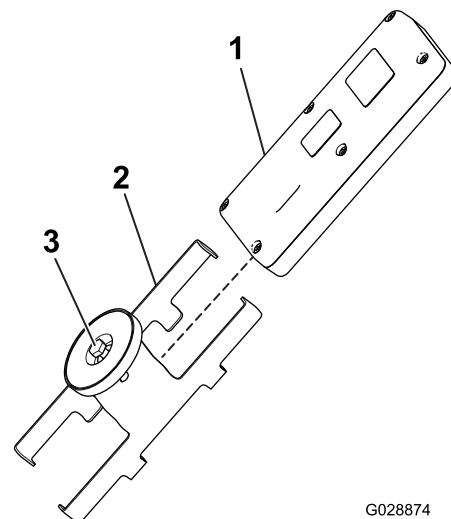

Figure 45
1. Loosen the bolt in the magnet on the magnetic remote bracket (Figure 45).
2. Slide the bracket sides apart and remove the remote (Figure 45).
- Install the handheld remote into the magnetic remote bracket, slide the halves together to secure the remote, and tighten the bolt in the magnet (Figure 45).